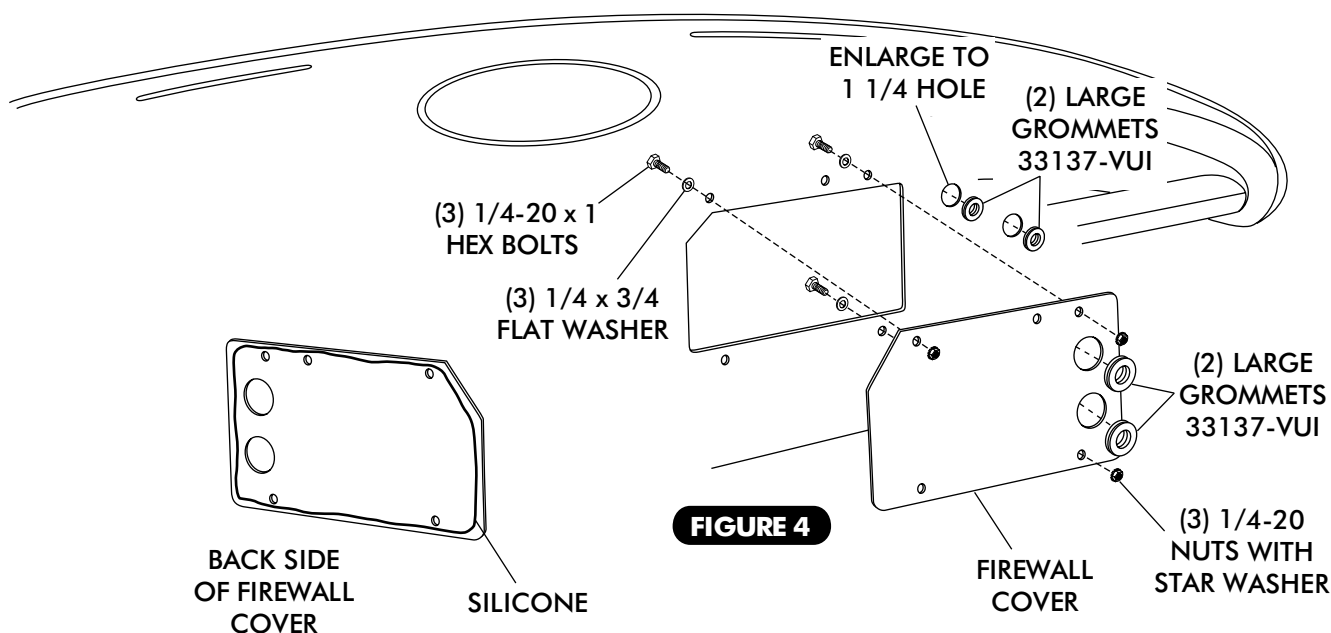

FIGURE 4
- ☐ APPLY A 1/4" BEAD OF SILICONE AROUND THE BACK SIDE OF THE FIREWALL COVER AS SHOWN IN FIGURE 4, BELOW.
- ☐ FROM INSIDE THE CAR, INSTALL FIREWALL COVER ON FIREWALL USING (3) 1/4-20 x 1 HEX BOLTS, FLAT WASHERS AND 1/4-20 NUT WITH STAR WASHER, SEE FIGURE 4, BELOW. (NOTE: USE SEAM SEALER TO FILL GAP BETWEEN COVER & LIP IN FIREWALL BEFORE PAINTING.)